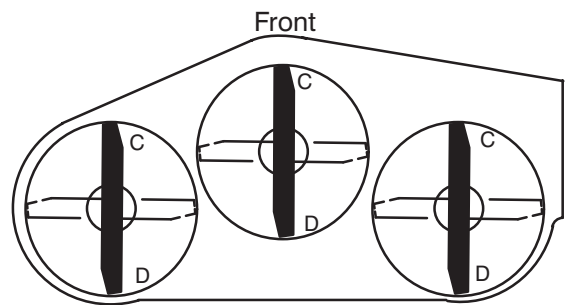
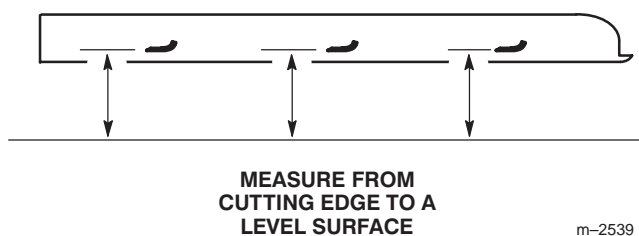

Figure 52
Figure 53
2. Position one blade front-to-rear (Fig. 52). Measure at **C** and **D** locations (Fig. 52) from a level surface to the cutting edge of the blade tips (Fig. 53).
4. Position the blades front-to-rear (Fig. 52). Measure at **C** and **D** locations (Fig. 52) from a level surface to the cutting edge of the blades (Fig. 53).